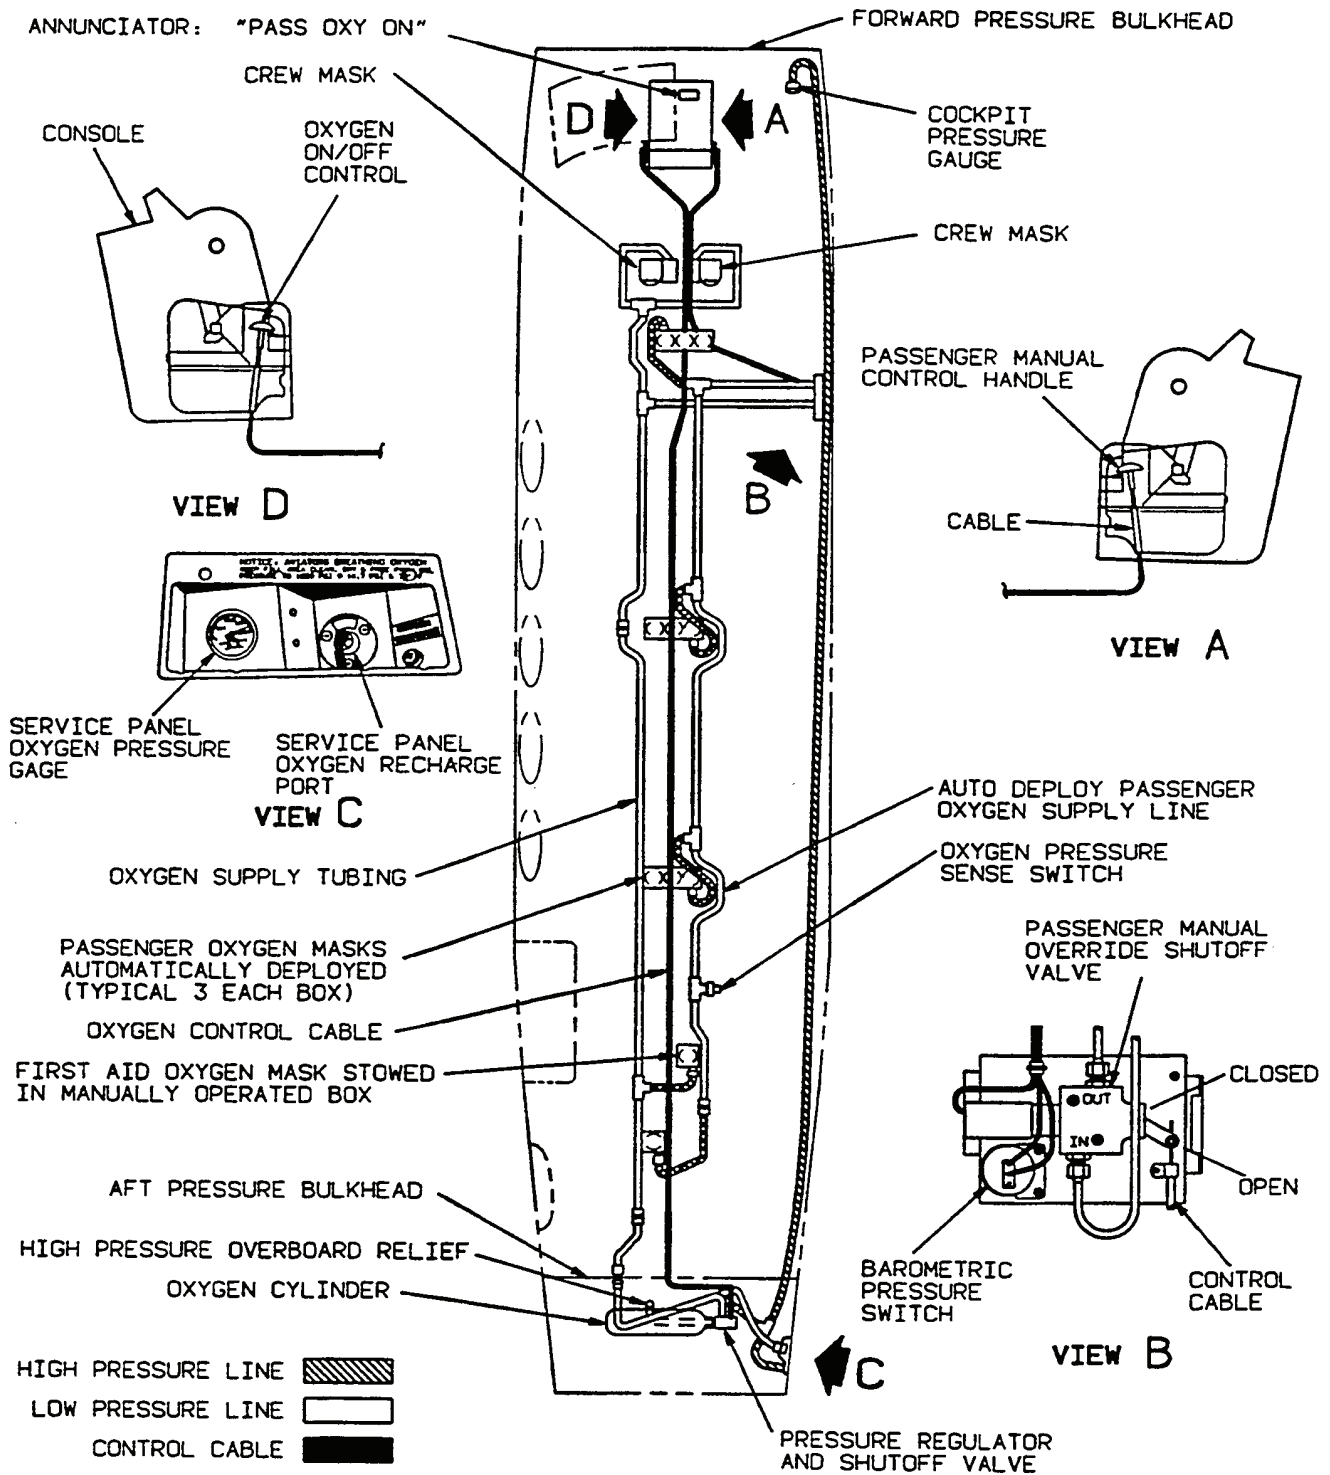

Figure 2-24. Oxygen System
a. Description. The oxygen system, Figure 2-24, is provided primarily as an emergency system; however, the system may also be used to provide supplemental (first aid) oxygen. One 77 cubic-foot capacity oxygen supply cylinder, charged with aviator's breathing oxygen, is installed in the unpressurized portion of the aircraft behind the aft pressure bulkhead. The pilot's and copilot's positions are equipped with mask mounted diluter demand/100% regulators, which automatically mix the proper amount of oxygen for a given amount of air at altitude. Drop out masks are provided for passengers. A first aid oxygen mask is also provided in the cabin. A gauge, placarded **OXYGEN**, located on the copilot's subpanel displays oxygen supply pressure. Oxygen system refilling is accomplished through a single filler valve located on the aft right side of the fuselage exterior. The oxygen system control circuit is protected by a 5-ampere circuit breaker placarded **OXYGEN CONTROL**, located on the right sidewall circuit breaker panel.